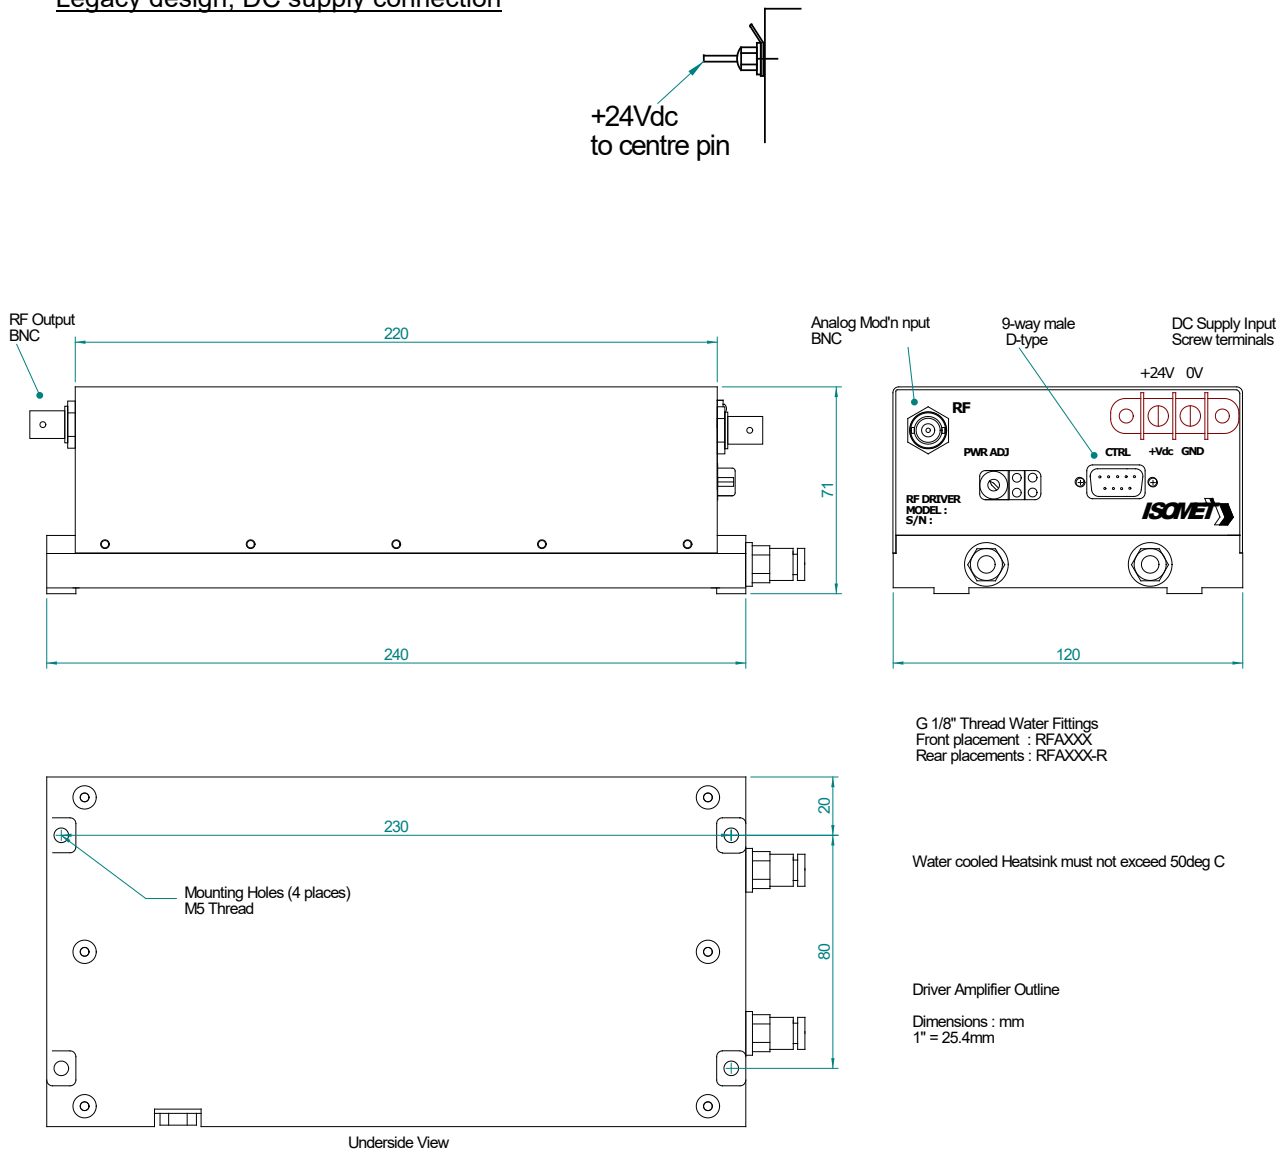

Figure 1: Driver Installation, mounting holes: 4 x M5
- 3.2 Connect the +24V (or +28V) and 0V DC supply to the feed-thru screw terminals as marked. See figure 1. Older versions may have a solder pin for +V and screw terminal for 0V. (See page 9). DO NOT turn on DC supply until step 3.10